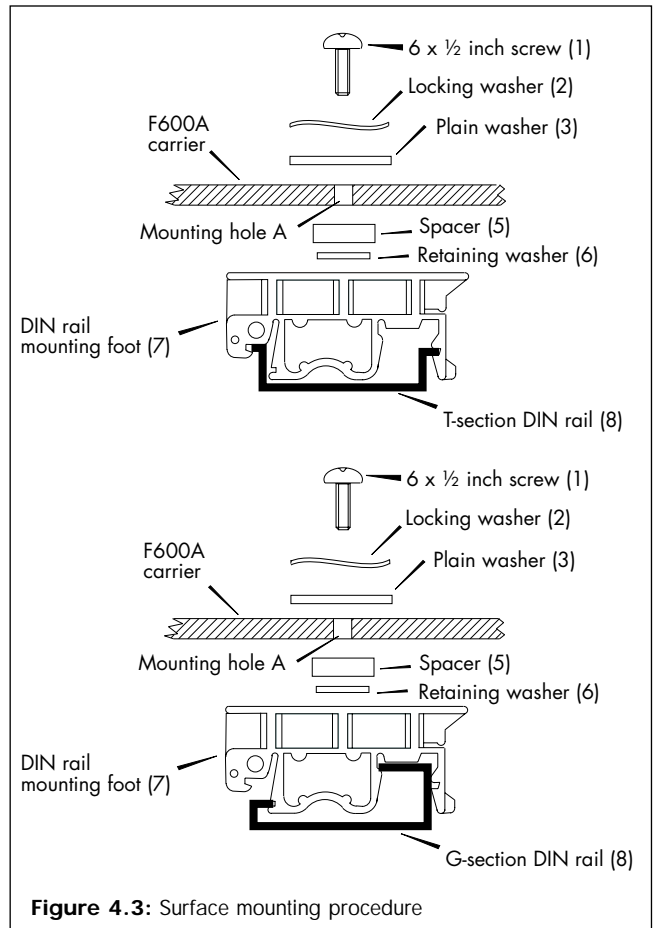

Figure 4.3: Surface mounting procedure
- Place a locking washer (2) and a plain washer (3) onto each No.6 x 1/2-inch screw (1) (figure 4.3).
- Fit spacers (5), retaining them with the washers (6) (figure 4.3).
- Locate the assemblies over the mounting feet and attach the screws (1) to the feet (figure 4.3).